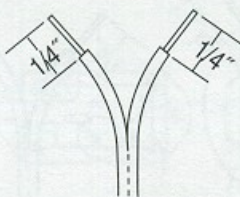

Figure 3-2
- **REMOVE 1/4"** of insulation from the Receiver end of the wire. (Figure 3-2)